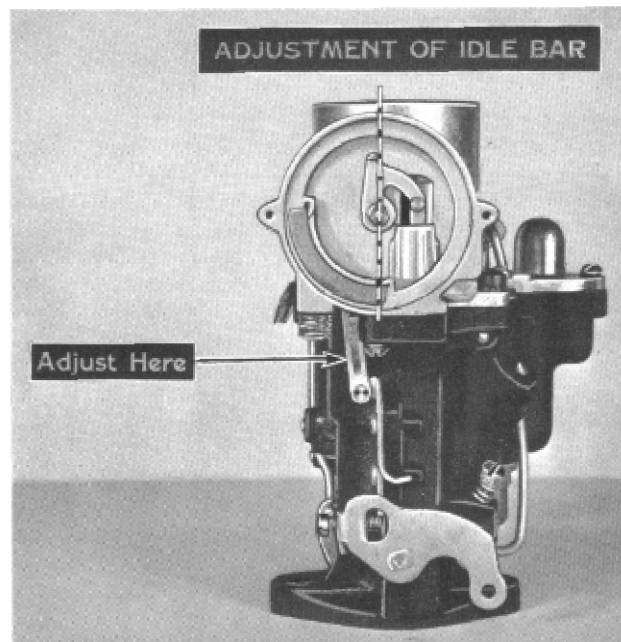

Figure 13
28. Adjust length of fast idle link to pull fast idle block free of throttle adjusting screw point when piston lever on choker shaft is in line with center marking on housing (Fig. 13). Lower edge of choker valve in this position is $\frac{1}{16}$ " from inner wall of air horn. Length of fast idle link may be varied by opening or closing crimped portion. (Fig. 13). In most cases this will not be necessary as the metal is rigid and factory settings will not be altered.